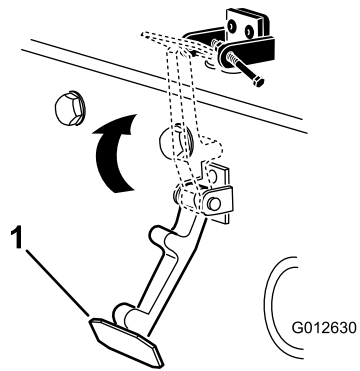

Figure 5
- Hook the latch onto the hood-latch bracket (Figure 5).